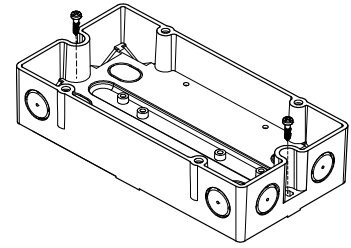

Fig. 4
- Mount the housing on an even surface with two M4 screws (Fig. 4). Distance between holes: 182.0 ± 1.0 mm.